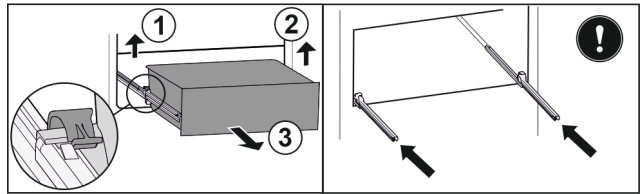

Fig. 113
- ▶ Lift left clamp and simultaneously pull drawer forwards on the left. Fig. 113 (1)
- ▶ Lift right clamp and simultaneously pull drawer forwards on the right. Fig. 113 (2)
- ▶ Remove drawer to the front. Fig. 113 (3)